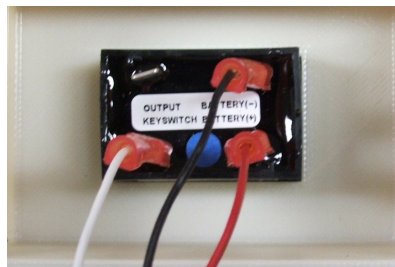

Figure 2
- 9) Connect the black wire (-) to the BATTERY (-) terminal of the battery meter (see Figure 2).
- 10) Connect the white wire to the KEYSWITCH terminal of the battery meter (see Figure 2).
- 11) Connect the red wire (+) to the BATTERY (+) terminal of the battery meter (see Figure 2).